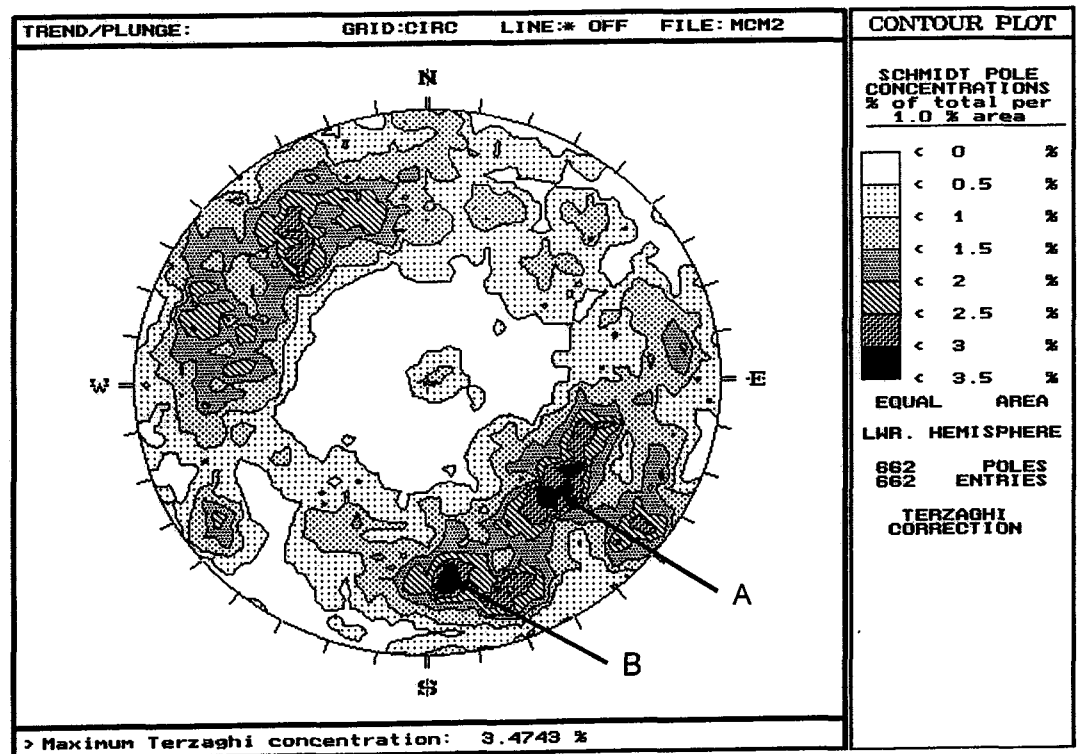

Figure 6
5. [a] Figure 6 shows the concentration of the pole plot of discontinuities in an open pit copper mine. The shape of the pit is almost circular. Which part of the pit is having some problems in slope stability? If the dip of fracture set A is  $50^\circ$  towards  $307^\circ$  and the dip of fracture set B is  $61^\circ$  towards  $353^\circ$ , what is the steepest safe slope angle of that part of the pit? Assume that the angle of friction of the rock is  $36^\circ$ . Give reasons for your answers.